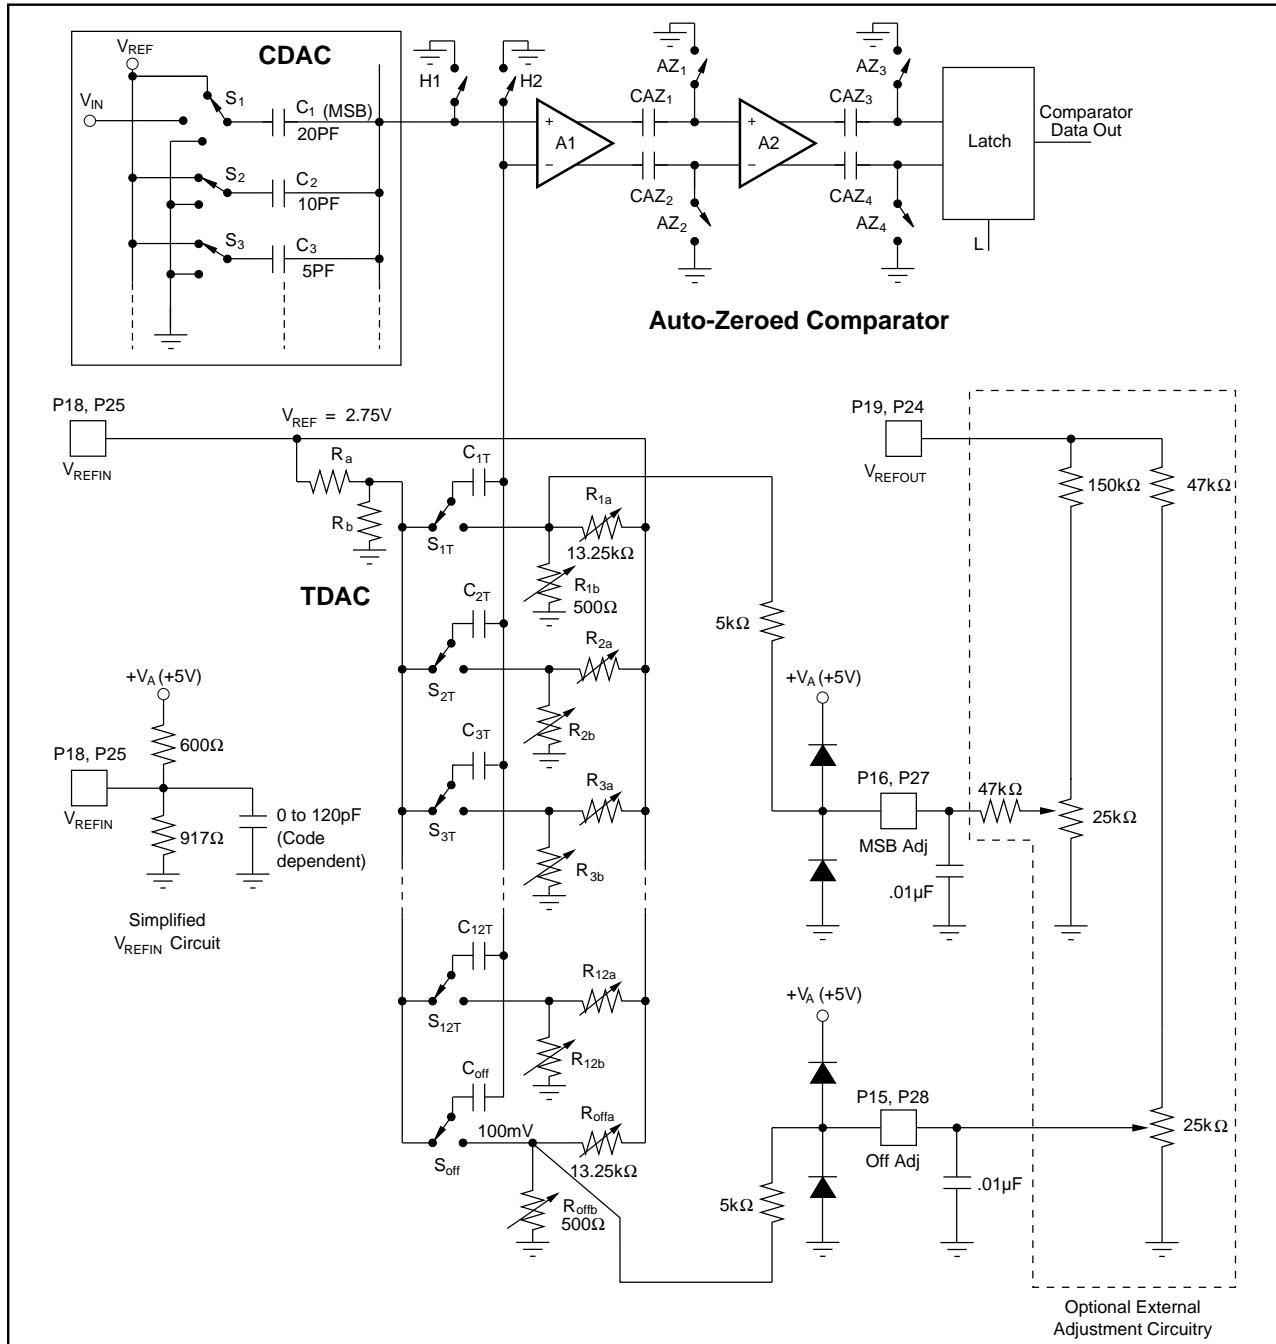
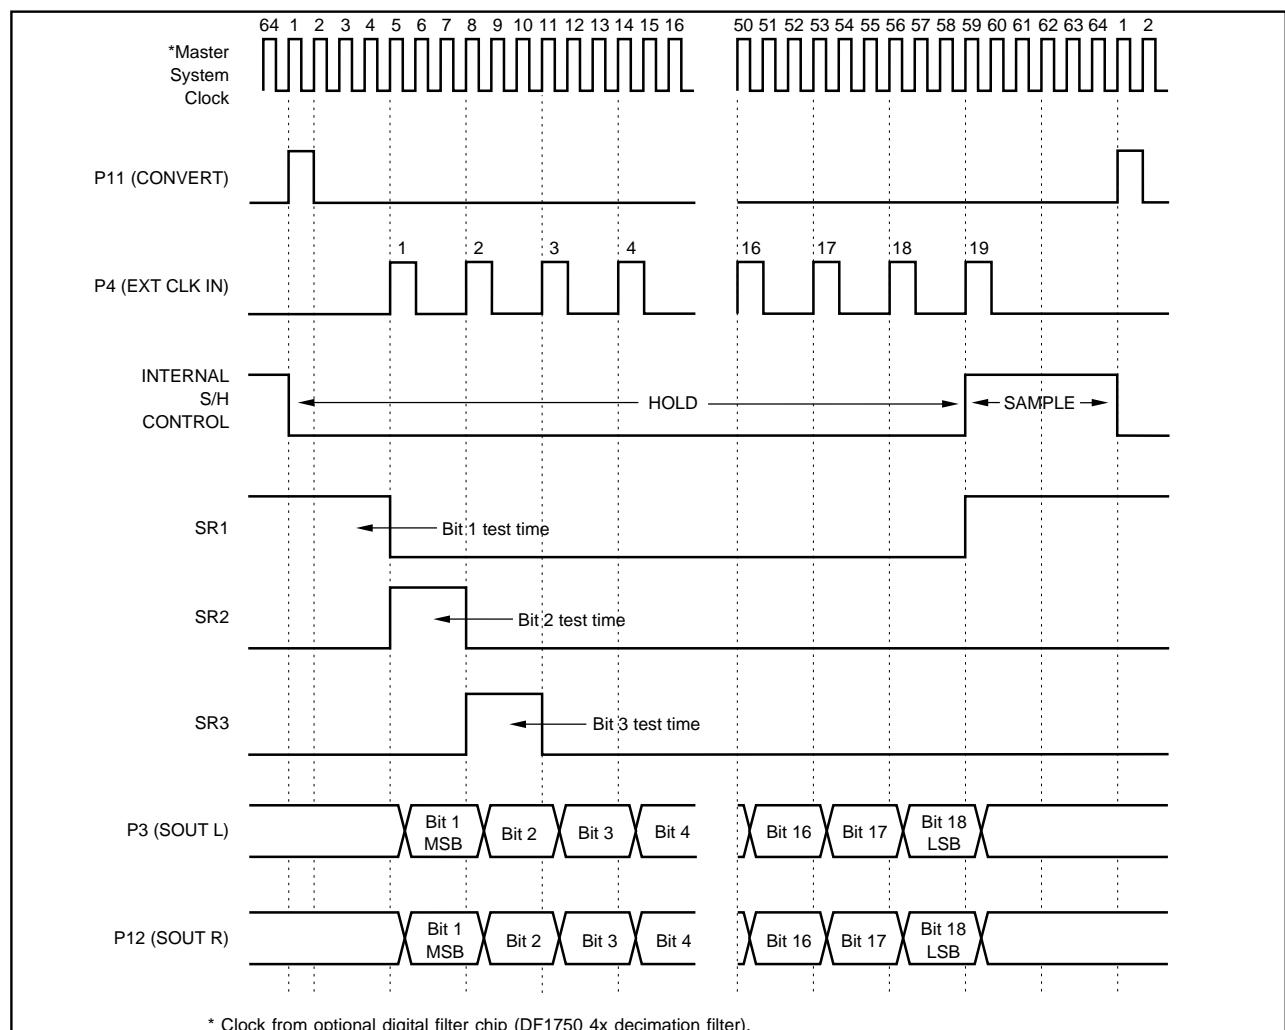

FIGURE 1. PCM1750 Simplified Circuit Diagram.
FIGURE 2. PCM1750 Input/Output Timing Diagram.
NOTES: (1) Binary Two's Complement coding. (2) The PCM1750 is tested and guaranteed at 5.2μs, however it will operate at 4.5μs. The dynamic performance is not guaranteed or tested at this conversion rate. (3) Ratio of $Signal_{RMS}$ / ($Distortion_{RMS}$ + $Noise_{RMS}$). (4) A/D converter sample frequency (4 x 48kHz; 4X oversampling per channel). (5) A/D converter input frequency (signal level). (6) Referred to input signal level. (7) Ratio of ($Distortion_{RMS}$ + $Noise_{RMS}$) / $Signal_{RMS}$. (8) Externally adjustable to zero error. (9) Differential non-linearity error at bipolar major carry input code. Externally adjustable to zero error. (10) Full scale range (5.50V). (11) Refer to equivalent circuit in Figure 1. (12) Worst case operating condition. Refer to typical performance curves.
After each conversion, the dual ADC returns to the SAMPLE mode in order to track the input signals. The switches shown in the simplified circuit diagram of Figure 1 will then be in the following states: S1 connects V_{IN} to C1 ; S2 to S18 connect C2 to C18 to V_{REF} ; H1 and H2 connect the top plates of the capacitor arrays to analog common; and the latching comparator is switched into its auto-zero mode by closing AZ1 to AZ4. Notice that C1 serves two purposes: it samples and stores the input signal V_{IN} and it is the MSB of the CDAC. Storing V_{REF} on C2 to C18 creates a bipolar offset, enabling V_{IN} to cover a span from $-V_{REF}$ to $+V_{REF}$. The 1/f noise as well as the DC input offset voltage of the comparator are removed by an autozeroing cycle which
occurs during the SAMPLE period (see the timing diagram shown in Figure 2). These errors are stored on the AC coupling capacitors (CAZ1 to CAZ4, shown in Figure 1) between the gain stages. During the SAMPLE period the inputs to gain stages A1 and A2 and the latch are grounded by switches H1, H2, and AZ1 to AZ4. Capacitors CAZ1 and CAZ2 track the amplified offset voltage of gain stage A1 and capacitors CAZ3 and CAZ4 do the same for A2. At the beginning of a conversion cycle, the autozeroing switches open and the instantaneous amplified value of both the DC offset voltage and the low-frequency flicker noise is stored on the coupling capacitors to produce zero comparator offset during a conversion cycle.
The timing diagram in Figure 2 illustrates the successive approximation routine of the PCM1750. Control signals CONVERT and CLK are derived from a master system clock which comes from a $256f_S$ (256 X the base sampling frequency of 48kHz) clock used by the optional digital filter. There are 64 clocks shown in the timing diagram because the PCM1750 is shown operating at 4 times the standard 48kHz sample rate (192kHz).
analog common (see Figure 1). This terminates the comparator auto-zero cycle and simultaneously switches (co-phase sampling) both converters from tracking their respective input signals into the HOLD mode, thus capturing the instantaneous value of V_{IN} (with a small delay specified as the aperture time).
For example, the testing of bit-2 proceeds in the following manner. The positive pulse from the second shift register element SR2, (see Figure 2 and 4) is applied to the bit-2 data latch and NOR gate. The NOR gate in turn drives S2 and switches bit-2 at the beginning of the bit-2 test interval. Note that the bit interval must be long enough to allow both the comparator input to settle and the comparator to respond. On
Notice from the timing diagram in Figure 2 that the successive approximation algorithm operates synchronously with an external clock to minimize digitally-coupled switching noise from corrupting either the sample-to-hold operation or the critical comparator bit decisions. The two serial output data streams are derived synchronously from the respective latched comparator outputs and are available after a delay of one CLKIN cycle as illustrated in Figure 2. The serial output driver cells are TTL and CMOS compatible.
Operation of the TDAC (trim DAC), which is laser trimmed at the wafer level, is described using bit-1 as an example. Switch S1T (see Figure 1) operates between two voltage levels—a reference level set by voltage divider Ra, Rb and a laser trimmable level set by R1a, R1b. The differences of these two levels is coupled by capacitor C1T to the minus input of the comparator to generate a correction voltage for